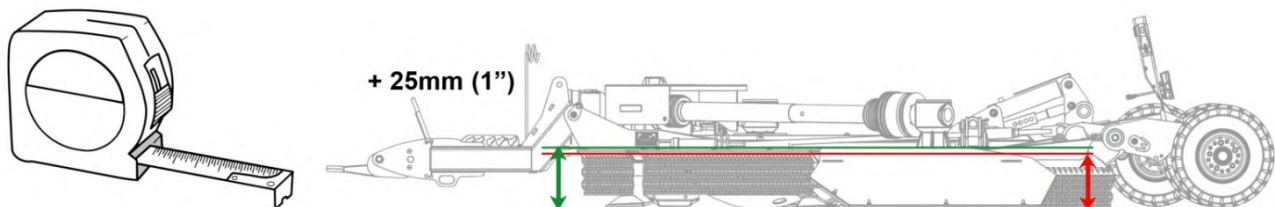

Figure 4.18 – Tuffcut 480/650 Front To Rear Machine Levelling
4.7.1.2 Measure from each end of the top of the hinge bar to the ground; see Figure 4.18 to determine the height of the front and rear of the machine.
NOTE: Keep in mind that the tyres may sink in soft conditions when the machine is in use altering the actual cut height; see Figure 4.18. As a safe precaution, set the cutting height slightly higher on set-up to cater for this sinking. Assess the working area after and then adjust again if required.